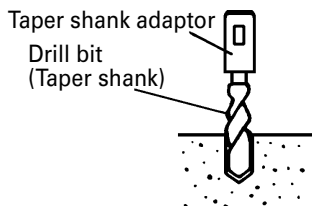

Fig. 9
(1) Install drill bit with taper shank in the taper shank adaptor. (Fig. 9)